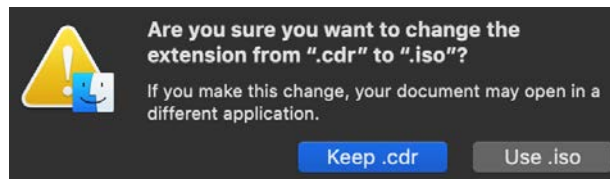

Figure 5.15 – Confirm extension change
10. You will need to confirm you want this (*Figure 5.15*):